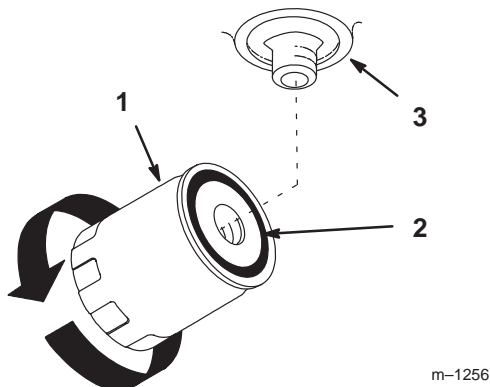

Figure 46
- Apply a thin coat of hydro fluid to the rubber gasket on the replacement filter (Fig. 46).
- When fluid overflows the filter, turn the oil filter clockwise until the rubber gasket contacts the filter adapter; then tighten the filter an additional 1/2 turn (Fig. 46).